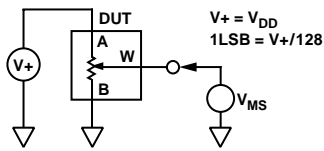

Figure 21. Potentiometer Divider Nonlinearity Error Test Circuit (INL, DNL)
- INL and DNL are measured at V_W with the RDAC configured as a potentiometer divider similar to a voltage output D/A converter. $V_A = V_{DD}$ and $V_B = 0\text{ V}$. DNL specification limits of $\pm 1\text{ LSB}$ maximum are guaranteed monotonic operating conditions. See Figure 21 test circuit.